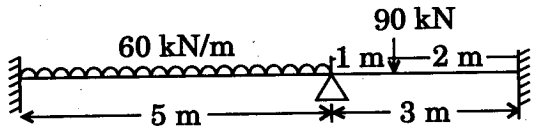

Figure 9
10. Determine the support moments and reactions for the continuous beam as shown in Figure 9. Use slope deflection method. Also draw the B.M. diagram. 10